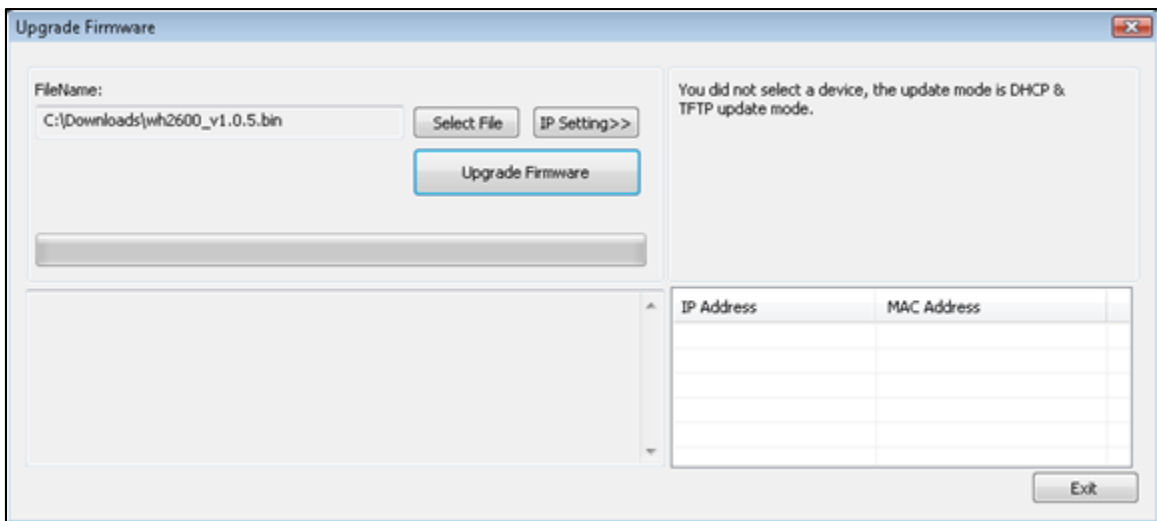

Figure 28
4. Reference Figure 28. Select the Select File button, and browse to the location of the file you downloaded in Step 1.